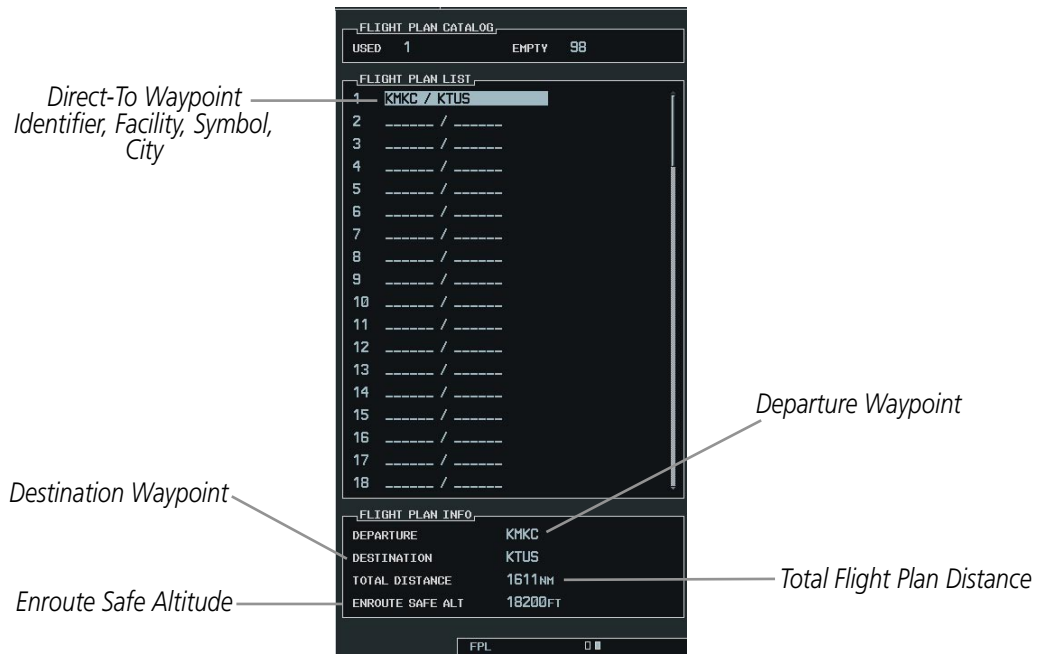

Figure 5-61 Flight Plan Information
- 3) The Flight Plan Information is displayed showing departure, destination, total distance, and enroute safe altitude information for the selected Flight Plan (Figure 5-61).